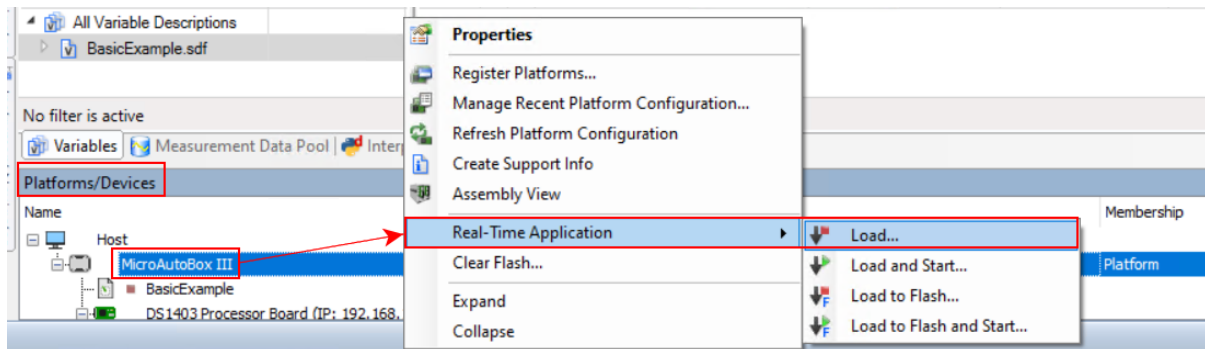
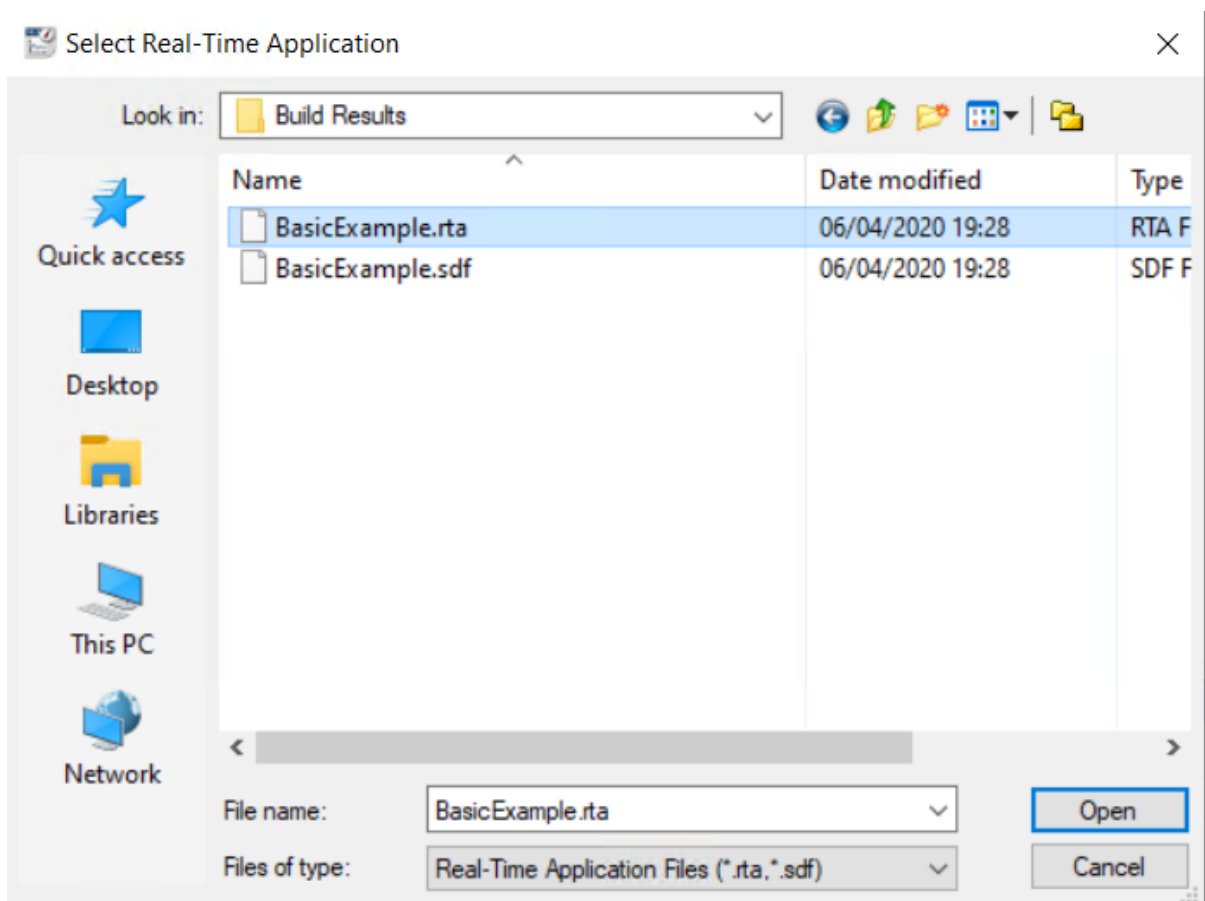

Figure 13.56: Load the application on the dSPACE platform.
Figure 13.57: Select BasicExample.rta from the ConfigurationDesk project folder.
- 9) Application should have already been loaded from the building of ConfigurationDesk. Otherwise, select the Platforms/Devices tab. Right-Click on your platform and select Real-Time Application> Load. Choose the executable file BasicExample.rta (see Figure 13.56 and Figure 13.57).